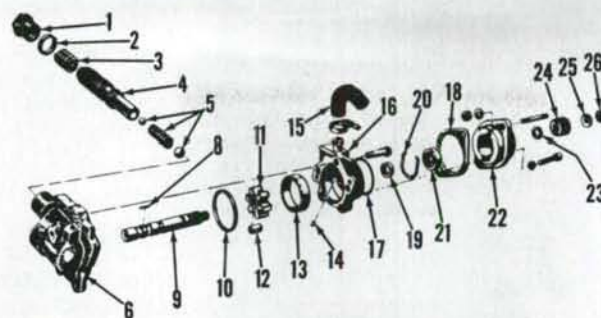

Fig. FO15 — Exploded view of power steering pump. Flow control valve (items 4 and 5) is serviced as a complete unit only.
or equivalent) capable of reading at least 2000 psi pressure in series with the pump pressure line as shown in Fig. FO14. Run engine until oil is warmed to operating temperature. With engine running at approximately 1000 rpm, turn steering wheel to full left or right, hold in this position and observe the gage pressure which should be 1100-1350 psi. Maximum working pressure of power steering pump is 1350 psi and if gage pressure approximates this reading, pump and relief valve can be considered satisfactory. If pressure is not as specified, renew the combined flow control and relief valve (4—Fig. FO15) and retest. If pressure is still considerably lower than 1100 psi, overhaul the pump as outlined in paragraph 12. If pump and relief valve are satisfactory, and the system still does not operate properly, refer to subsequent paragraphs for checking and overhauling the remainder of the system components.
12. **OVERHAUL.** Disconnect the pump to control valve pressure line from pump, then mount pump in a vise with drive shaft end up. Unstake retaining nut (26—Fig. FO15) and remove nut, lock washer (25), gear (24) and spacer (23). Remove the two Allen screws and separate pump cover flange (22) from pump. Remove gasket (18), "O" ring (17), snap ring (20) and bearing (21) from flange. Remove the cover to housing cap screws and remove pump from vise;